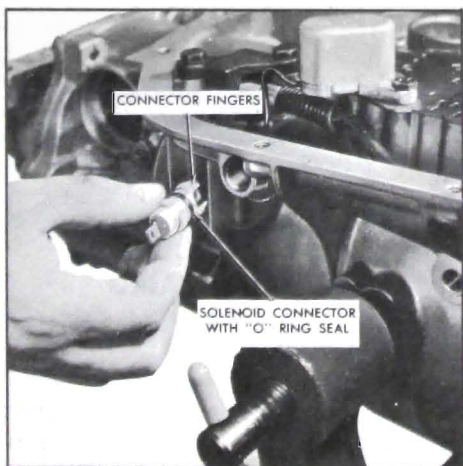

Figure 5-714
8. Install the connector with the lock tabs facing into the case. See Figure 5-714.